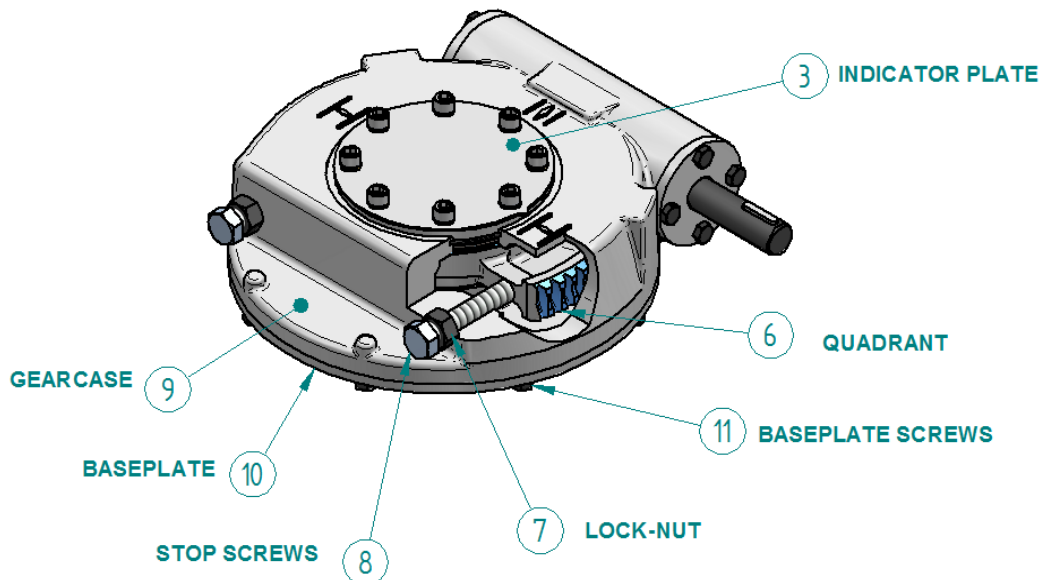

Figure 5 - Setting Stop-Bolts
The gearbox stops are factory set but require adjusting for optimum valve performance. If an actuator is to be used to operate the gearbox, then the mating faces between the gearbox input flange and the actuator output must be sealed prior to assembly using a ring of silicone sealant applied at the same radius as the bolt holes, a small ring of sealant should be applied around each bolt hole to completely seal the faces (see Figure 4). The actuator limit and torque switch settings should be set up according to the actuator manufacturer's recommendations. The gearbox open & closed stop screws should then be set (see Figure 5).
Close the valve, using the actuator where applicable. Referring to Figure 5, use the indicator plate (3) pointer as an indication of position.